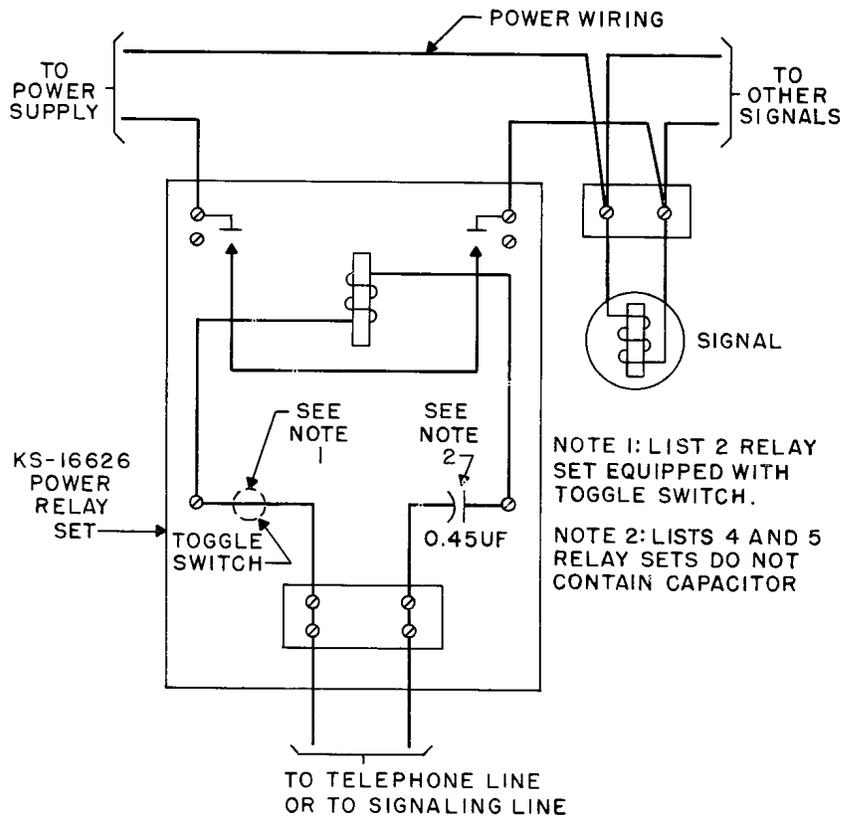

Fig. 5 – KS-16626 Power Relay Set Connections
2.05 Connections for signals which do not have a self-contained power relay are shown in Fig. 5 and 6. These signals require commercial power wiring between the relay set and the signal.